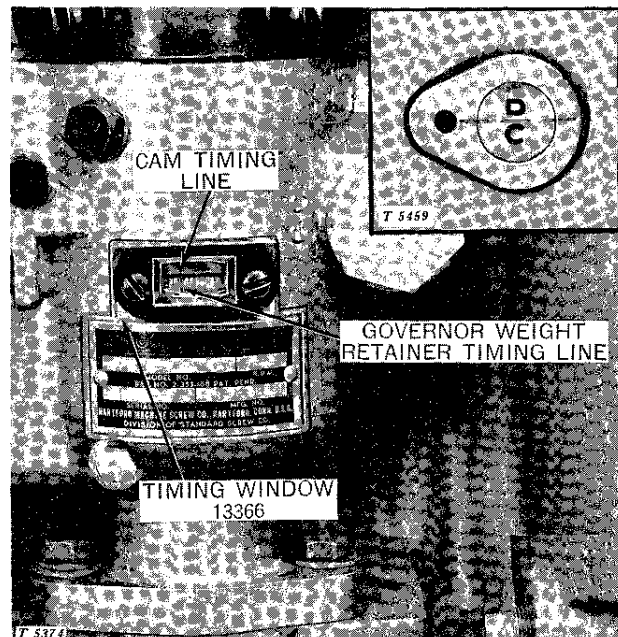

Fig. 40-10-10 -- Timing Lines
1. Uncover timing hole on clutch housing (Fig. 40-10-10).
2. Turn engine in direction of rotation (counterclockwise when viewed from flywheel end) until No. 1 piston is on a compression stroke and the "DC" mark on the flywheel rim aligns with timing mark on the clutch housing (Fig. 40-10-10).
3. Remove timing hole cover on injection pump housing and check to see if the timing line on the weight retainer hub aligns with the mark on the cam rim as shown in Fig. 40-10-10). If adjustment is required, loosen pump mounting bolts and turn injection pump assembly by hand so that the timing marks line up, and retighten mounting bolts.